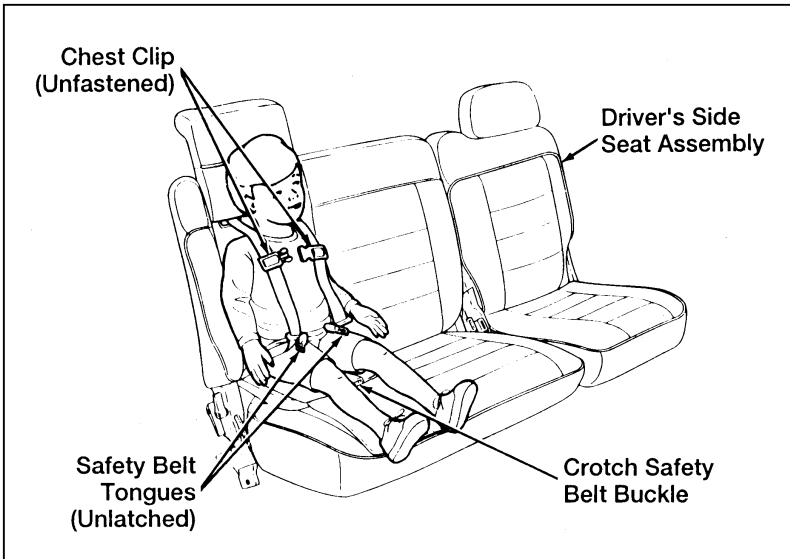
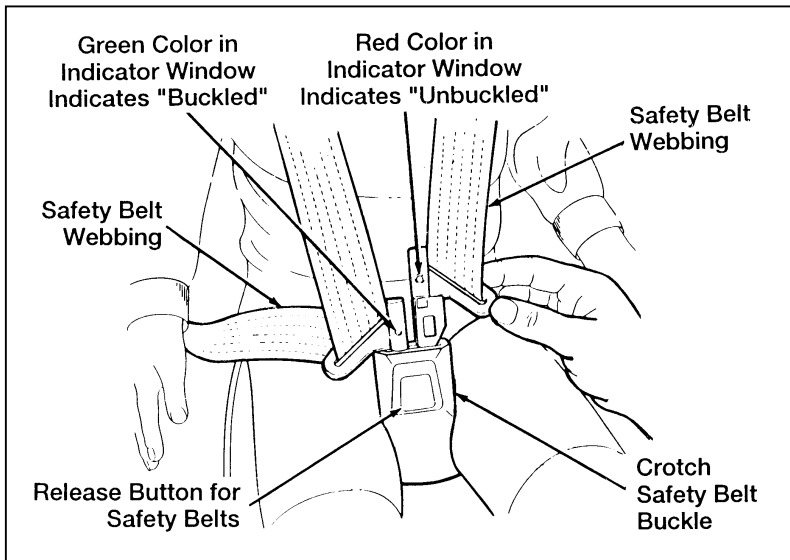

Figure 6: Shoulder safety belt placement on the child
Figure 7: Fastening the crotch safety belt
6. Place child on the child seat cushion. Then position the right shoulder belt over the child's shoulder as shown in Figure 6. Insert the right safety belt tongue into the single opening of the crotch safety belt buckle as shown in Figure 7.